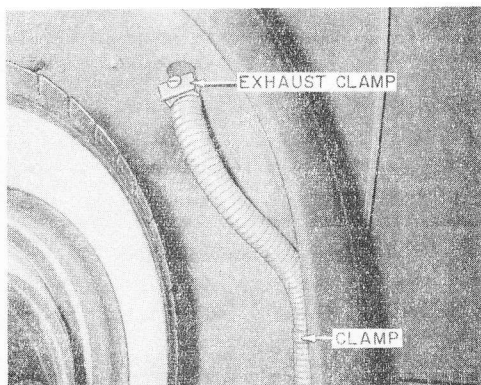

FIGURE 15
body and fender join the exterior portion of the body. Observe where clamp may be mounted approximately midway between point where tube joins the exhaust outlet on the exchanger and the end of the tube. This clamp must be installed in such a manner that the exhaust tube will not lay against the underside of an exterior surface. The placement of this clamp is extremely important, since, if it is clamped to the underside of an exterior surface, the heat from the exhaust might possibly damage or blister the vehicle's finish. (See Figure 15)
2. Remove the nearest body bolt that secures the fender to the vehicle and place the clamp at that point. (See Figure 15)
3. Secure tube to exhaust outlet by drilling one (1) No. 30 hole through flexible tube and exhaust outlet and installing one (1) No. 8 x 5/16 inch long sheet metal screw to join flexible tube to rigid tube.